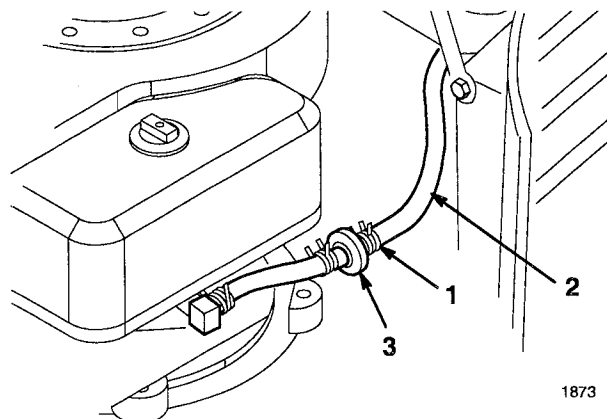

Figure 24
3. Squeeze the ends of the hose clamp together and slide it up the fuel line toward the fuel tank (Fig. 24).
4. Pull the fuel line off the filter (Fig. 24) and allow gasoline to drain into a gas can or drain pan.
The best time to replace the fuel filter (Fig. 24) is when the fuel tank is empty. Never install a dirty filter if it is removed from the fuel line.
3. Squeeze the ends of the hose clamps together and slide them away from the filter (Fig. 24).